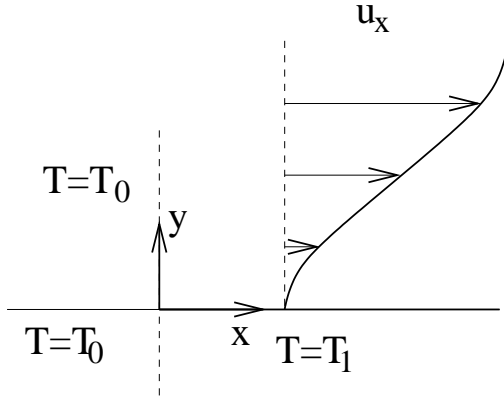

Figure 16: Flow of power law fluid across a surface.
2. Consider the high Peclet number mass transfer in the pressure-driven flow of a ‘power-law’ fluid past a flat surface, as shown in figure 16. Use a Cartesian co-ordinate system where the surface is in the  $x - z$  plane, and the velocity is in the  $x$  direction. For a power-law fluid, the stress  $\tau_{xy}$  is related to the velocity gradient ( $du_x/dy$ ) by the relation,